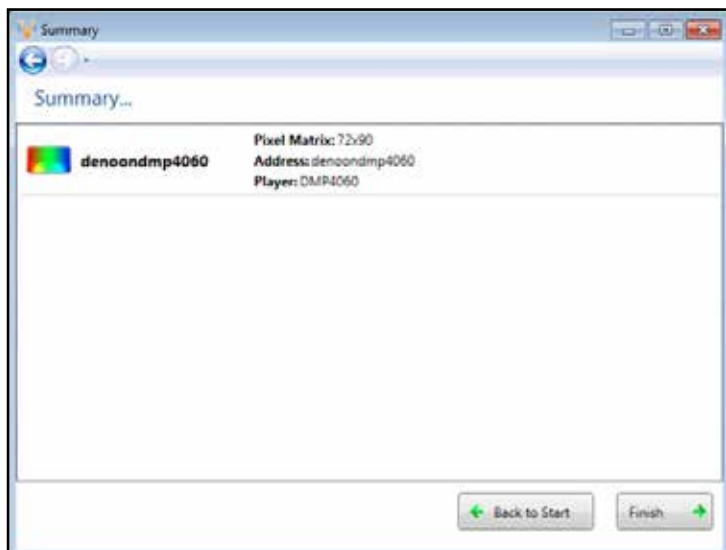

Figure 18: Display Configuration Summary Window
- A Summary box, shown in **Figure 18**, provides basic information about the newly configured display. Click **Back to Start** to return to the beginning of the process to configure another display. Click **Finish** to complete display configuration.